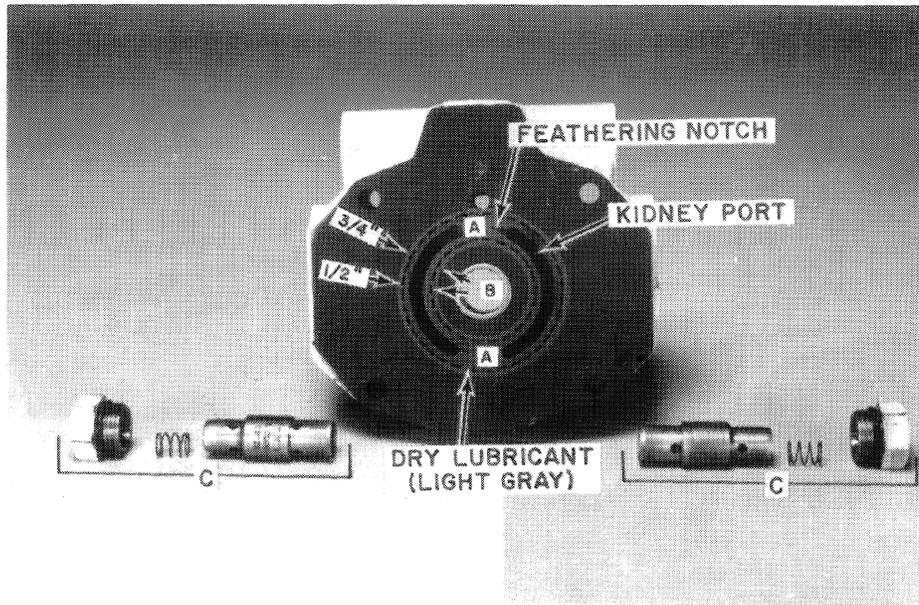

FIGURE 4-17
10. The valve block relief valves have been removed in Figure 4-17. These are non-adjustable and should be replaced if not operating properly.
After heat-treating, a 3/4" (20 mm) wide band of dry-film lubricant is applied to both sides of the valve plate, Figure 4-17.
- f. Usually will be completely polished off (along with the black outer layer) between the two PISTON kidney ports, Figure 4-17.
Check the sides of the valve plate for wear, grooves, or metal buildup in the ½" (13 mm) wide area contacted by the rotating piston block, A, Figure 4-17. This area should not feel rough or grooved when scraped cross-ways with your thumbnail. Sometimes the unpolished edge of the dry-film lubricant can be felt, but the valve plate is not worn and can be used.
Check the needle bearings for wear, B, Figure 4-17. These bearings are pressed into the valve plate, with bearing numbers to the outside.
Two directional relief valves are located in each transmission, C, Figure 4-17. These relief valves limit the maximum system pressure to 4000 PSI (27,560 kPa).